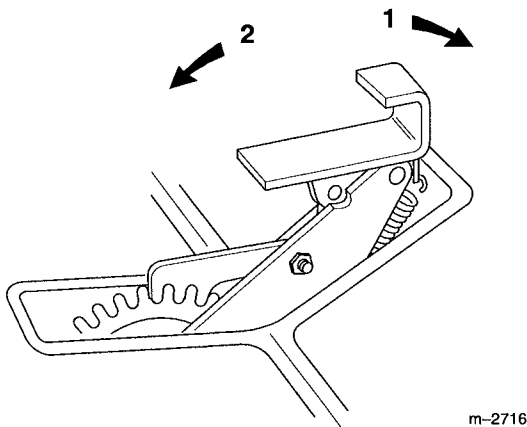

Figure 11
The attachment lift (Fig. 11) is used to raise and lower attachments.
1. Place your foot on the lift pedal (Fig. 11).
2. Push down with your foot, release the lock by rocking the pedal with your heel, then press with your toe to raise the attachment lift (Fig. 11). Remove your foot to hold the attachment in the up, or raised position.
2. Push down with your foot, release the lock by rocking the pedal with your heel, then release foot pressure to lower the attachment lift (Fig. 11). Remove your foot to hold the attachment in the down, or desired position.